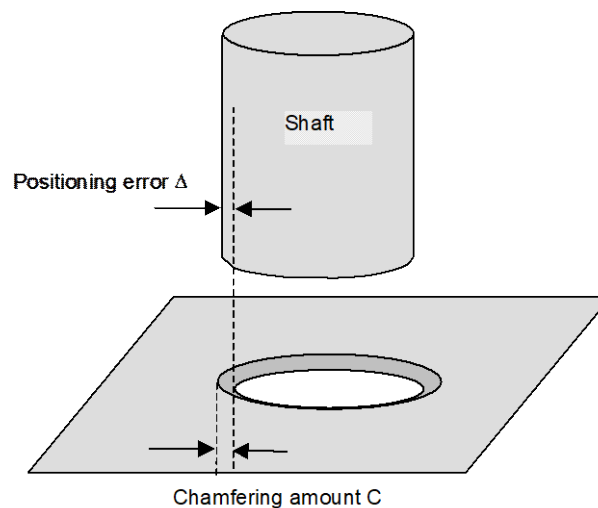

Fig. 2.2.2 Application example of the force control function
(2) Positioning error at the start of force control
- Basically, the positioning error must not exceed the amount by which the part is chamfered. Fig. 2.2.2 shows an example in which a shaft part is inserted into a hole. If position error $\Delta < \text{chamfer } C$, the part can be inserted into the hole.